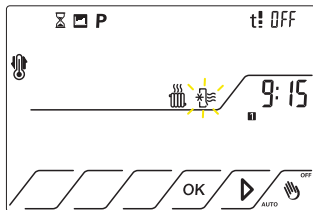

Fig.14
4.2.3 Press  up to position on  that will start to flash and OFF appears. Fig.14